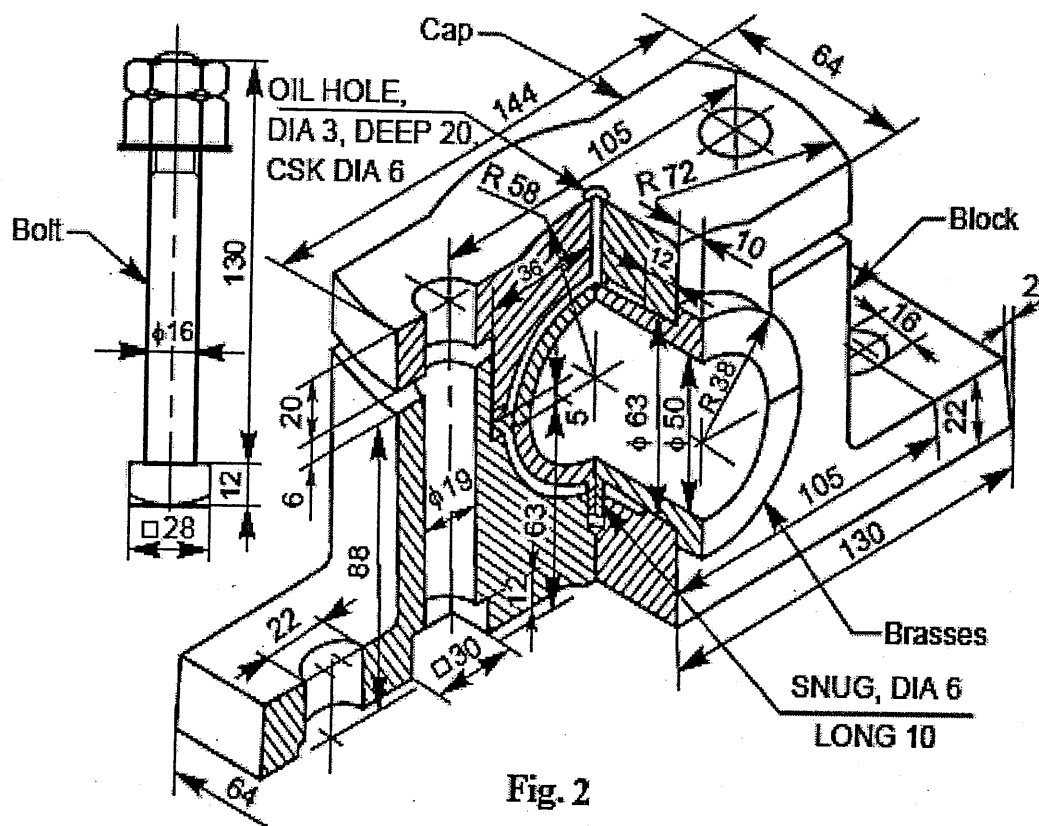

Fig. 2
- IV. Draw the following views of a Plummer block (fig.2), suitable for supporting a shaft of diameter 50mm: (i) half sectional view from the front, with left half in section (ii) sectional view from the side. (20)